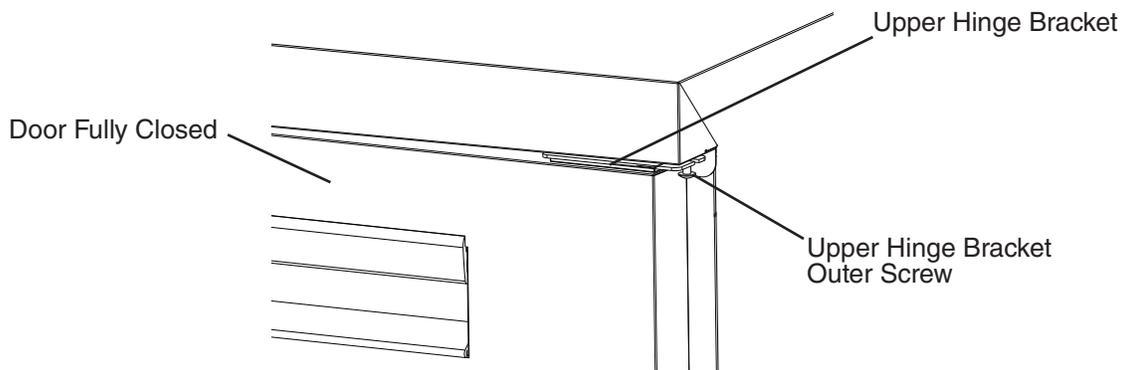

Fig. 30
19) Close the door and tighten the upper hinge bracket outer screw. See Fig. 30.